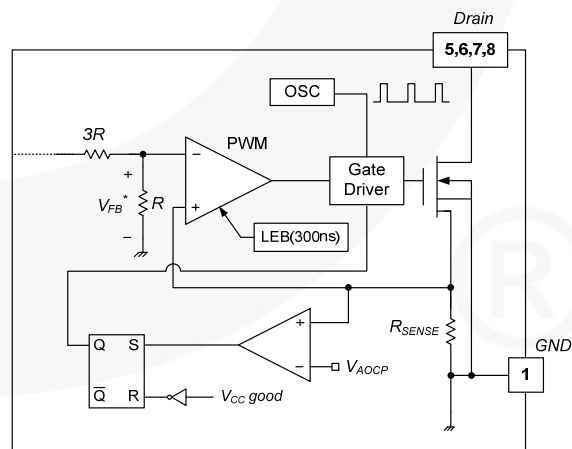

Figure 21. Abnormal Over-Current Protection
4.2 Abnormal Over-Current Protection (AOCP): When the secondary rectifier diodes or the transformer pins are shorted, a steep current with extremely high di/dt can flow through the SenseFET during the minimum turn-on time. Even though the FSL156MRBN has overload protection, it is not enough to protect in that abnormal case due to the severe current stress imposed on the SenseFET until OLP is triggered. The internal AOCP circuit is shown in Figure 21. When the gate turn-on signal is applied to the power SenseFET, the AOCP block is enabled and monitors the current through the sensing resistor. The voltage across the resistor is compared with a preset AOCP level. If the sensing resistor voltage is greater than the AOCP level, the set signal is applied to the S-R latch, resulting in the shutdown of the SMPS.